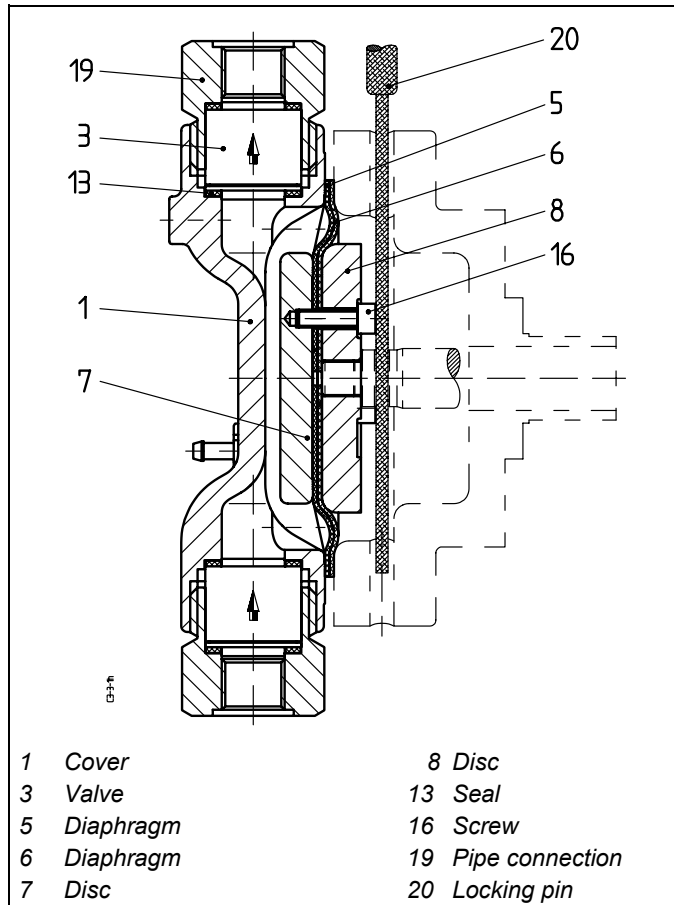
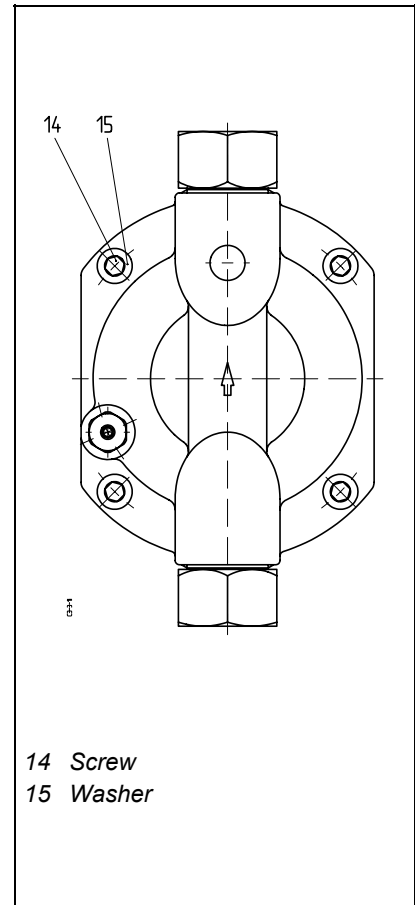

Fig. 3.8: Sectional View
Fig. 3.9: View
The replacement of the diaphragm in gear models G2 and A2 is shown in *Fig. 3.8 and Fig. 3.9*.
- Undo the screws (14) uniformly in a crosswise manner and remove the cover (1).
- To prevent movement of the push rod insert a screwdriver or a locking pin (20) through the bores in the yoke and push rod (see *Fig. 3.8*).